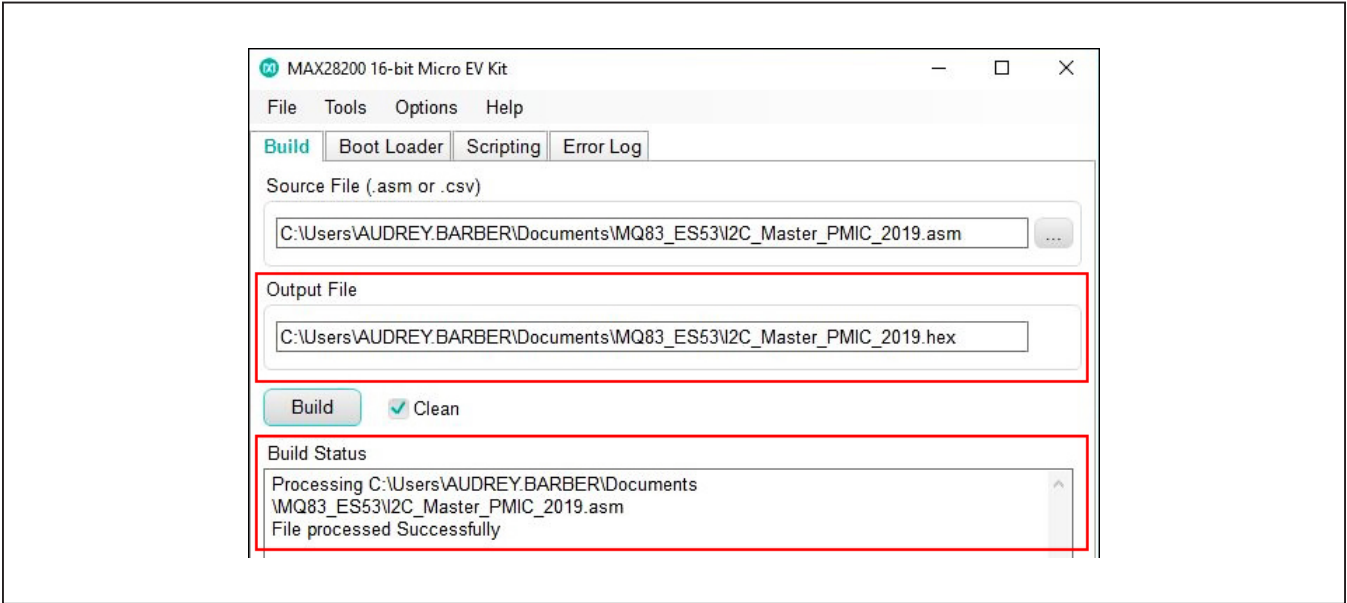

Figure 22. Successful Conversion of a .csv File into .hex File
- 5) This action produces a successful completion message (Figure 22). A .hex file of the same name (shown in the **Output File** text box) appears in the directory with the .hex file extension.